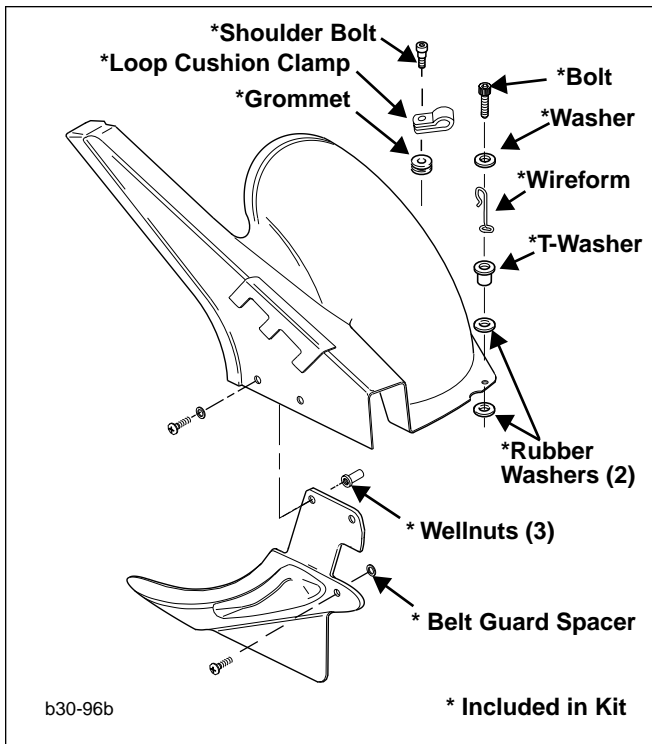

Figure 14. S2/S2T Rear Inner Fender and Belt Guard
- See Figure 14. Using a file slightly enlarge (widen) the front left hole on rear inner fender to allow installation of T-washer.
- See Figure 14. Attach rear inner fender to **new** swingarm.
- a. See Figures 14 and 17. Install rear belt guard spacer on inboard side of the belt guard. Make sure the rear belt guard spacer is placed so that the thicker side is down, as shown.
All S2/S2T models require the installation of the wireform described in Step 38. The wireform should be oriented as shown in Figures 14 and 18.
38. See Figure 14. Apply LOCTITE THREADLOCKER 243 (blue) to threads of bolt. Place rubber washer on either side of rear inner fender and install T-washer, wireform, washer and bolt to front left hole. Make sure wireform captures rear brake line. Tighten bolt to 6-8 ft-lbs (8-11 Nm).
39. See Figure 14. Apply LOCTITE THREADLOCKER 243 (blue) to threads of shoulder bolt.